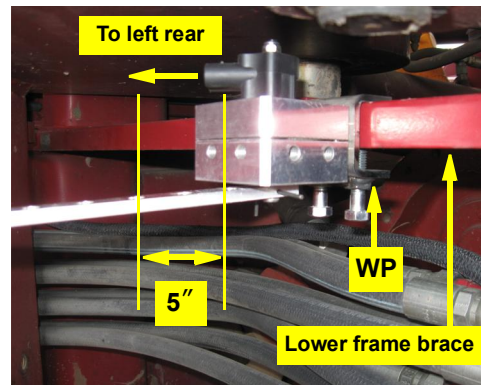

Figure 2h: Installed WAS assembly
- h. To ensure a solid bracket mounting, apply the recommended amount of threadlocker **WM** to the cone point Allen set screws **WL** (not shown) and attach the WAS assembly and bracket **WP** to the back lip of the lower frame brace. The center of the assembly must be 5" from the center of the articulation point (not shown) (Figure 2h).